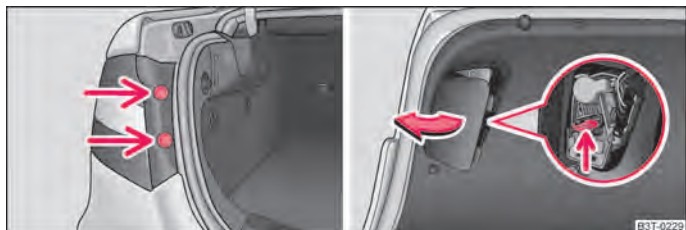

Fig. 207 Remove the outer part of the rear light unit/remove the inner part of the rear light unit
- Take out the plugs ⇒ fig. 207 - left and unscrew the rear light unit using a torx wrench1).
- Screw the rear light unit tight and press in the plugs ⇒ fig. 207 - left.
- Take off the cover of the rear light unit on the inner side of the bonnet lid ⇒ fig. 207 - right.
- Press the spring bolt ⇒ fig. 207 - right and take the lamp holder out of the housing of the rear light unit.